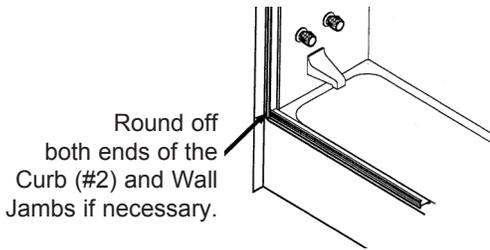

Figure 1
- B. Locate the Curb (#2). Cut the Curb (#2) 1-1/16" shorter than this measurement. If your shower has curved corners, use a File to round off and shape the ends of the Curb (#2) to fit the rounded corners (See Figure 1). **Do not cut the Header (#1) at this time.**